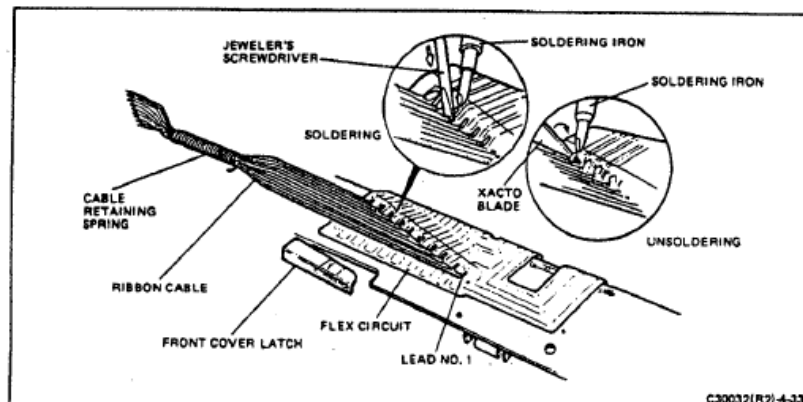

FIGURE 4-33 SOLDERING/UNSOLDERING RIBBON CABLE
6. Refer to Figure 4-33. Starting with lead No. 1 of the cable, insert the point of a sharp blade (a pointed blade Xacto knife is recommended) under the wire. The sharpened edge of the blade must be held so that it makes physical contact with the junction point of the wire lead and the solder pad of the flex circuit. Do not insert the point of the blade beyond lead No. 1.
7. Refer to Figure 4-33. Place the blade of a jeweler's screwdriver on top of the bare end of the No. 1 lead exactly at the point where the insulation begins. Press down firmly to create a positive heat sink. (This prevents the insulation from melting back on the lead.)